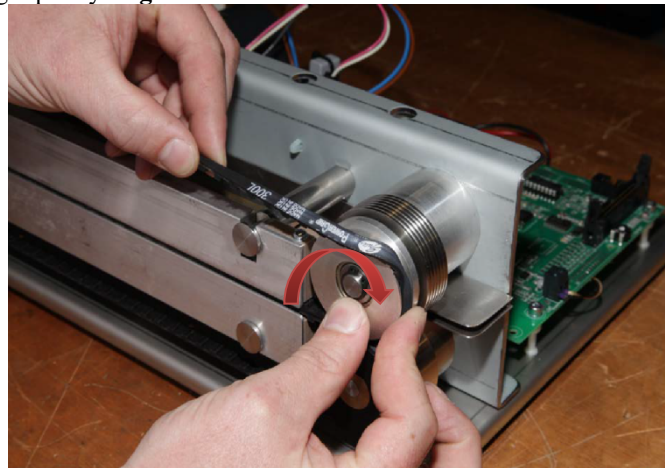

Figure 1
Preparation for Use	<ol style="list-style-type: none"> 1. Power off the heat sealer and remove all power and data cables from the back of the machine. 2. To remove the cover, place the machine in an upright position, removing only the two black screws beneath the sealer that are next to the front rubber legs. Fig. 1 3. Carefully lift the lower front cover using a screwdriver, place it between the base of the heat sealer and the bottom of the lower front cover and lift. Fig. 2 4. Place the machine back down to the normal position and remove the lower front cover. Fig. 3 5. Next, lift the cover by first pulling it slightly forward, lift and place in upright position behind the machine. Fig.4 6. This will expose the inner workings of the heat sealer. Fig. 5
Diagrams (drawings, pictures)	  <p style="text-align: center;"> Figure 1 Figure 1 </p>
1. With the cover already removed, remove the top transport belt clockwise from the top right pulley. **Fig. 1**